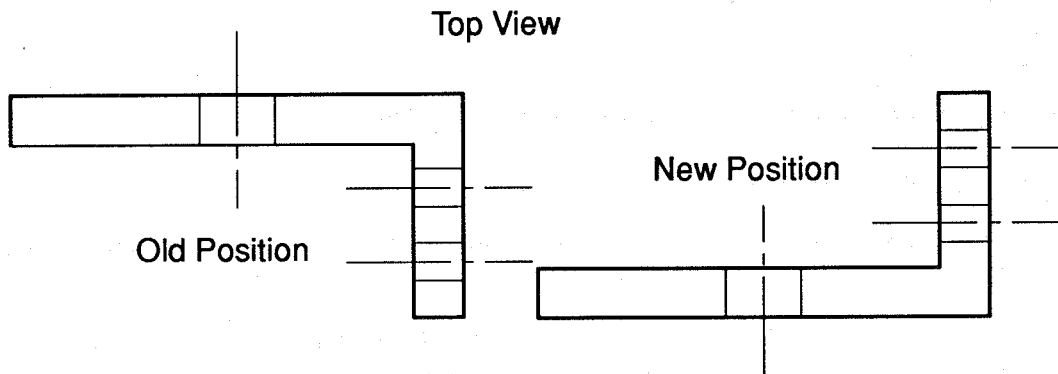

FIG 2 - POSITION OF L SHAPED BRACKET
8. Remove the 'L' shaped bracket with the rifle clip intact. Separate the rifle clip and bracket, and retain the nuts and bolts. Reverse the 'L' shaped bracket and re-install in the original position as shown in Fig 2.